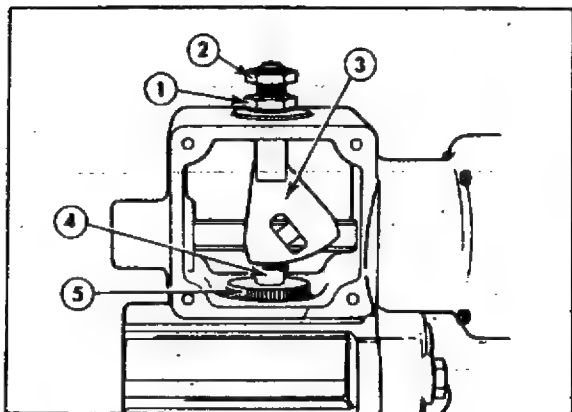

Fig. 57 Removing Boost Control Unit
2. Slacken the locknut Fig. 57, then turn the adjusting screw up to its top limit to lift the cam.